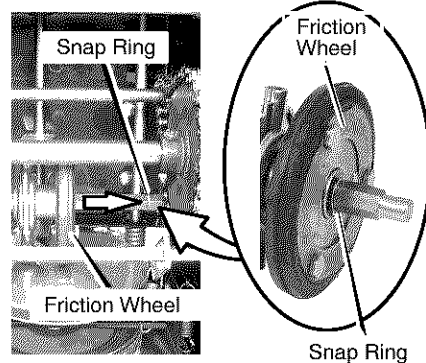

Figure 36
6. Note the position of the **friction wheel**. In the correct position, the **friction wheel** will contact the **snap ring**. If the **friction wheel** is not in the correct position, adjust as follows (see Figure 36).
3. Move the **friction wheel** against the **snap ring** (see Figure 36).